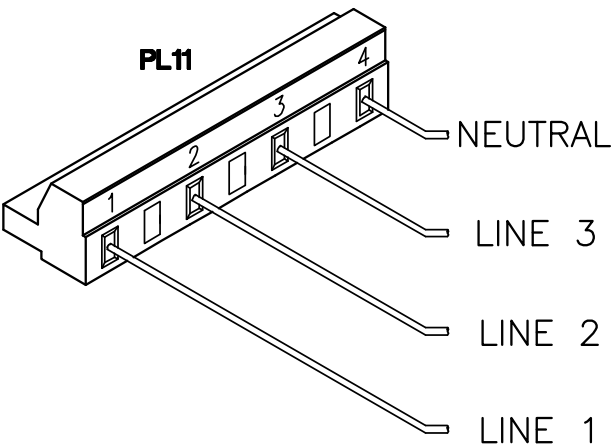
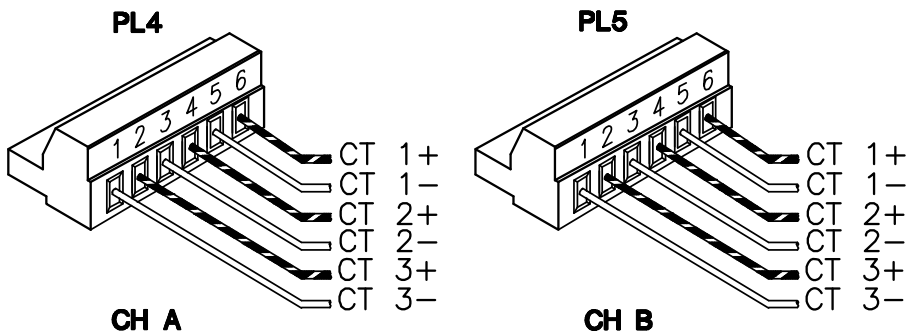

FIGURE 1
FIGURE 2
4. Connect voltage leads to the four-position connector PL11 as shown in Figure 1. Label each set of CT leads with the load/tenant ID. Connect single-load meter CTs to PL4 only (PL5 not used). Two-load meters use both PL4 and PL5. See Figure 2 for CT connections and polarity. Use Figures 5, 6, 7 and 8 for load connections.